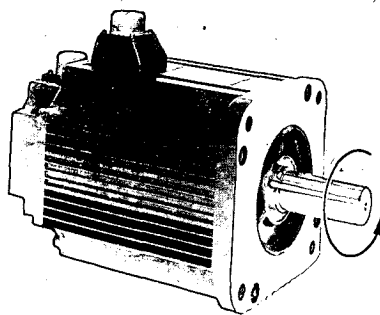

Fig. 11.2 Motor Forward Running
- (1) Increase the speed reference voltage gradually from 0V, then the motor rotates at a speed proportional to the reference voltage.
- (2) When the reference voltage is positive, the motor rotates in the forward direction (counterclockwise when viewed from the shaft extension.) (Fig. 11.2)